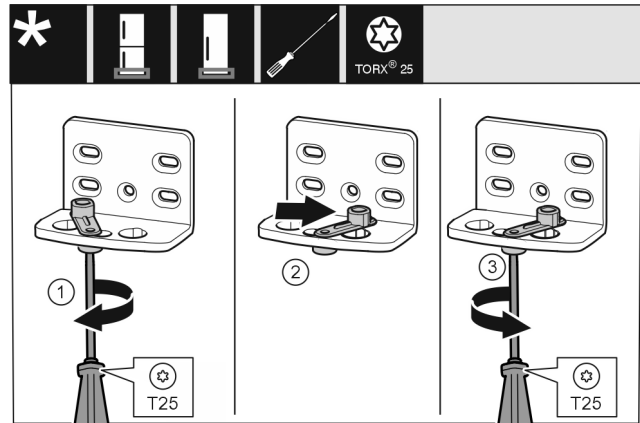

Fig. 12
- Loosen the screw using a T25 screwdriver. Fig. 12 (1)
- Lift the door closing aid and turn it 90° to the right in the hole. Fig. 12 (2)
- Tighten the screw using the T25 screwdriver. Fig. 12 (3)